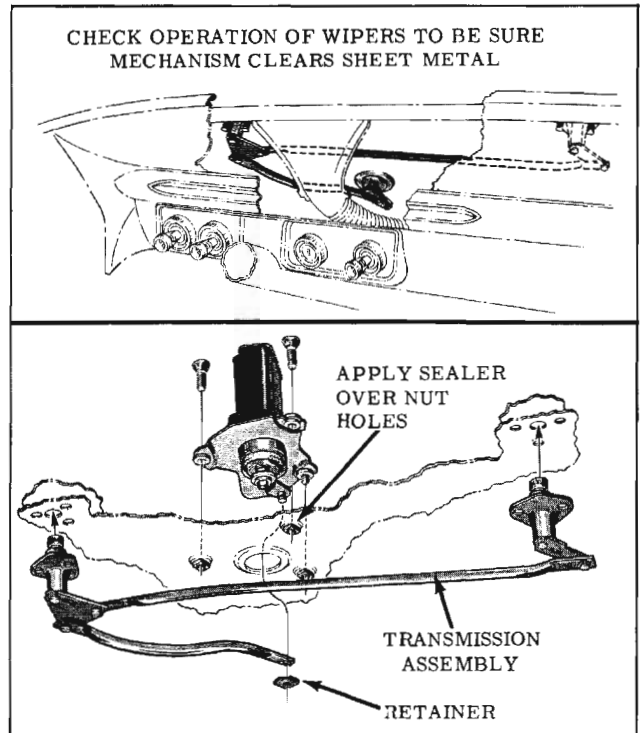

Fig. 14-161 Motor and Transmission Installation
1. Disconnect drive link from crank arm under instrument panel by removing retaining clip. (Fig. 14-161)